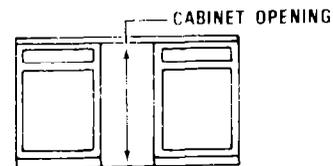

FIGURE 9
7. Before moving the compactor into position, measure the cabinet opening as shown in Figure 9.